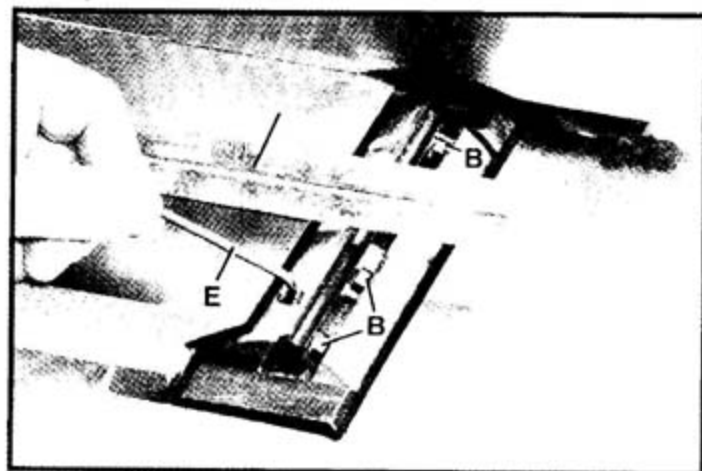

Fig. 61
13. Lower the infeed table and place a straight edge (J) Fig. 61, on the outfeed table extending over the cutterhead as shown.
14. Rotate the cutterhead by hand until the knife is at its highest point at each end of the cutterhead. To raise the knife, use wrench (E) Fig. 61, and turn raising screw clockwise until the knife just touches the straight edge (J) on each end and center of the cutterhead when the knife is at its highest point. When you are certain the knife is adjusted proper-
ly, tighten the five locking screws (B) Fig. 61, three of which are shown, by turning them counterclockwise.